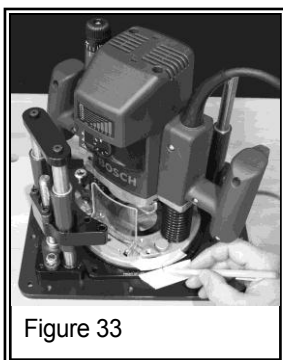

Figure 33
1. Place the optional blank mounting plate on the lift. Position your router so the handles, switch, and variable-speed control are in the desired orientation. Apply a strip of masking tape to both the router and the blank plate, then draw a reference line across the tape to mark the router's alignment position (see Figure 33).